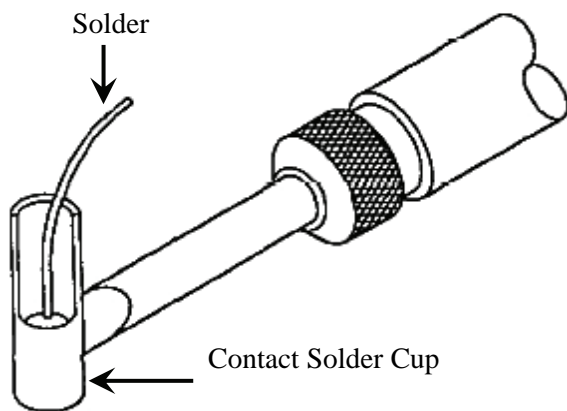

Figure 7. Filling Solder Cup with Solder
- b. Direct soldering iron at contact solder cup until solder flows (Figure 7).